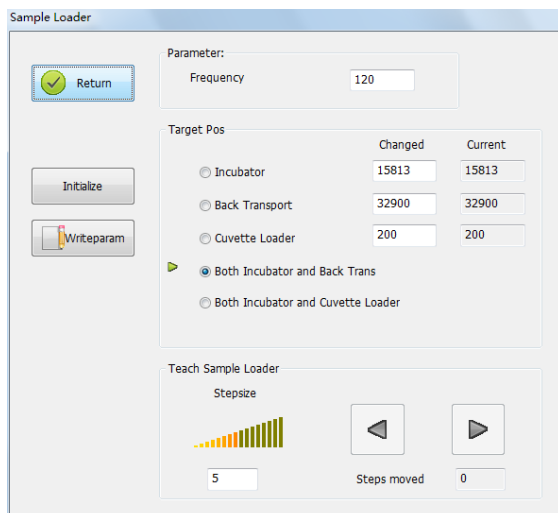

Figure A.7-2 [Sample Loader] Dialog
2. Click **<Sample Loader>** to enter **[Sample Loader]** dialog. Select **Both Incubator and Back Trans** in **Target Position** (Figure A.7-2). Then click **<Return>** button to return to **[Maglumi Service]** interface.